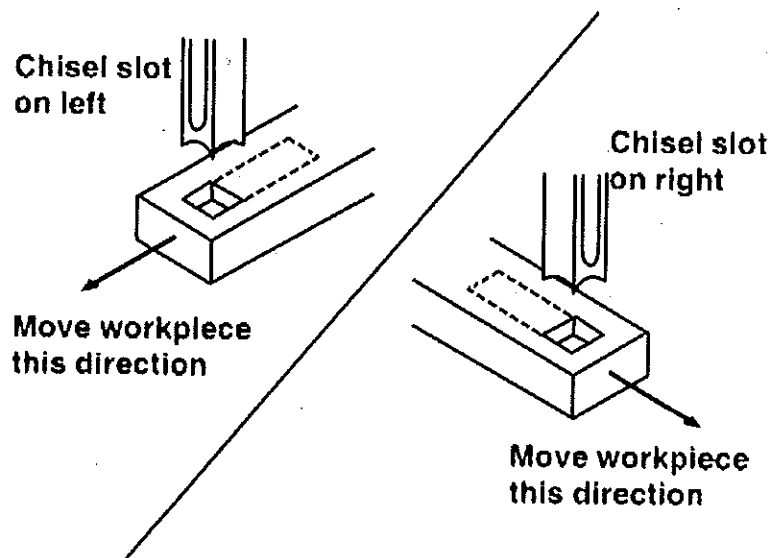

FIGURE 6
5. After the first cut, the workpiece is moved along with the right handwheel for each successive cut. The direction of movement must allow the chips to clear freely. Move the workpiece so that the slot in the chisel is releasing chips into the *already cut* part of the workpiece. See Figure 6.